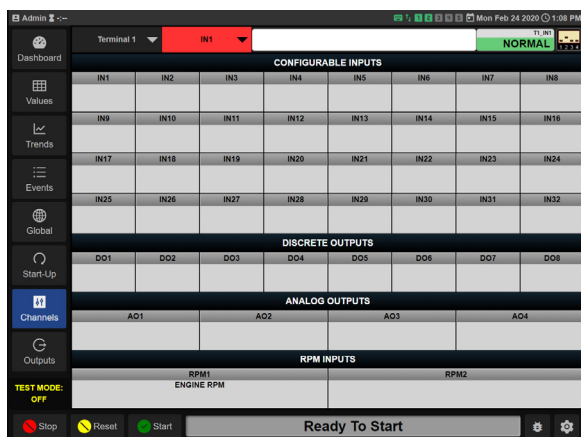

Figure 3.17 – RPM1 INPUT, ENGINE RPM
- 3.17 **Configure an RPM Channel** — Click on the **INX** box, a dropdown will appear that contains all of the 32 inputs, DO1-DO8 Discrete Outputs, AO1-AO4 Analog Outputs, and RPM Inputs. See Figure 3.17.